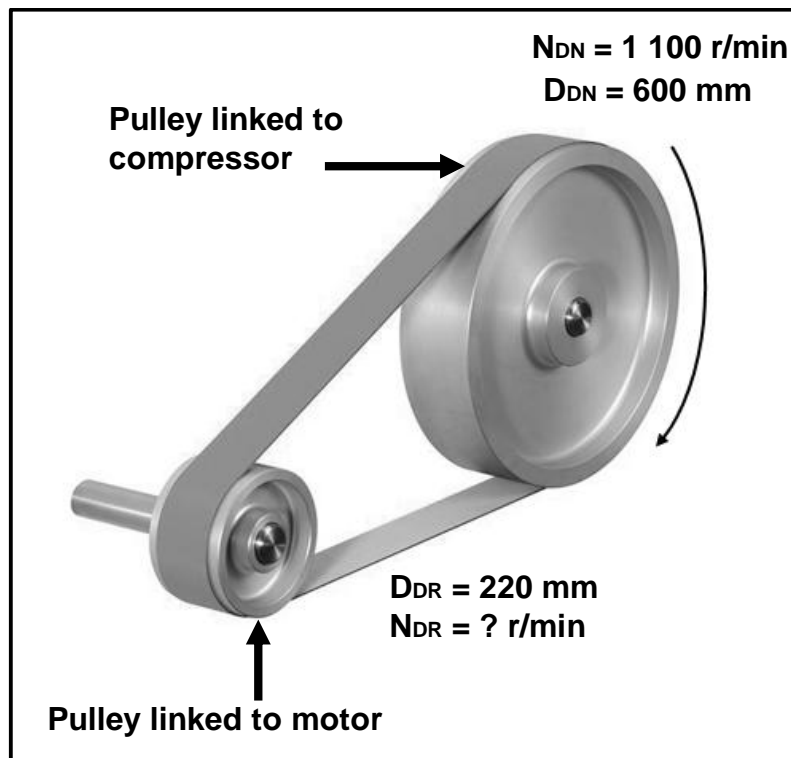

FIGURE 11.5
11.5 The belt drive system of a compressor is shown in FIGURE 11.5 below.